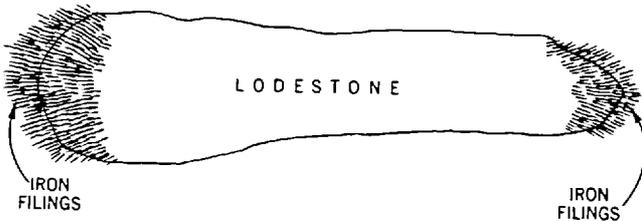

Fig. 31-4. Iron filings attracted to the poles of a magnet.
**The Poles of a Magnet.** If we sprinkle iron filings over a magnet, the filings adhere to it, but the greatest number of filings is found clustered at two opposite points of the magnet. It seems as though all the magnetism is concentrated at these points. We call these points the *poles* of the magnet. See Fig. 31-4.